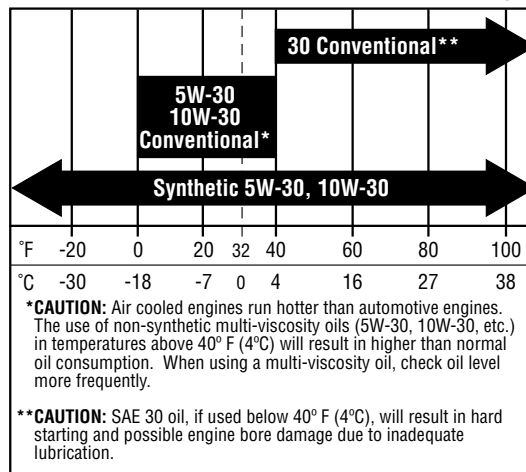
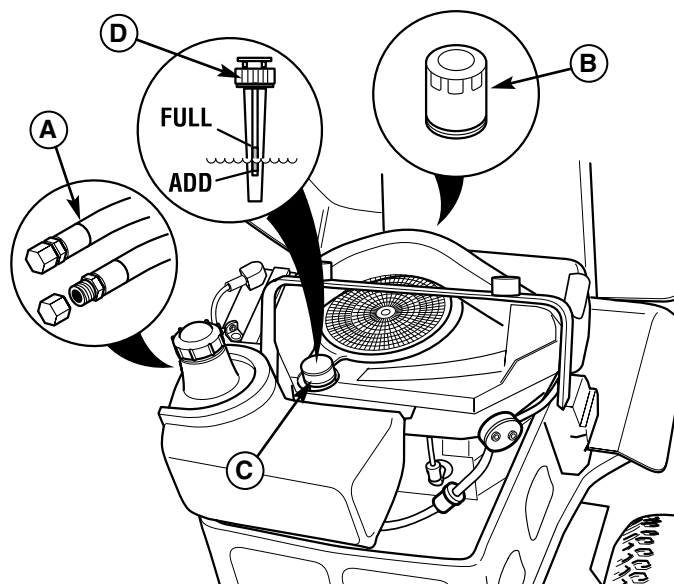
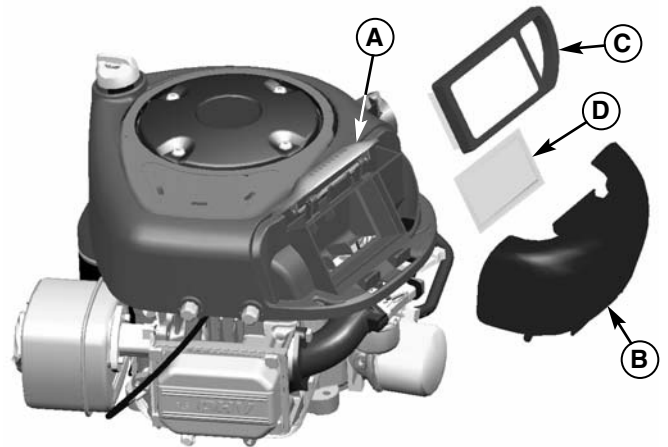

Figure 26. Recommended Engine Oil - Briggs & Stratton Models
Figure 27. Oil Change - Briggs & Stratton Models
Figure 29. Air Filter Service - Briggs & Stratton Single Cylinder Models
2. Clean the area around the dip stick (C, Figure 27).
3. Remove the dip stick (C) and clean it with a paper towel.
4. Insert the dip stick back into the engine. Thread the cap back into the tube (D).
5. Remove the dip stick and read the oil level. The oil level should be between the "FULL" and "ADD" marks (D). If not, add oil according to the oil recommendations chart (Figure 26).
1. Clean the area around the dip stick (C, Figure 27) and oil drain tube (A).
2. Remove the oil drain plug (A) from the end of the oil drain tube. Remove the dip stick (C). Allow ample time for complete drainage.
3. Reinstall the oil drain plug (A) and route the hose next to the engine.
1. Clean the area around the dip stick (C, Figure 27) and oil drain (A).
2. Remove the oil drain plug (A) and dip stick (C). Allow ample time for complete drainage.
3. Remove the oil filter (B). Discard the filter.
2. Remove the cover (B). Remove the filter (C, Figure 27) and pre-cleaner (D).
3. Install the pre-cleaner (D) with the mesh side up. Install the filter (C) as shown.
4. Install the cover (B, Figure 29) making sure the tabs are inserted into their slots. Secure with the latch (A).